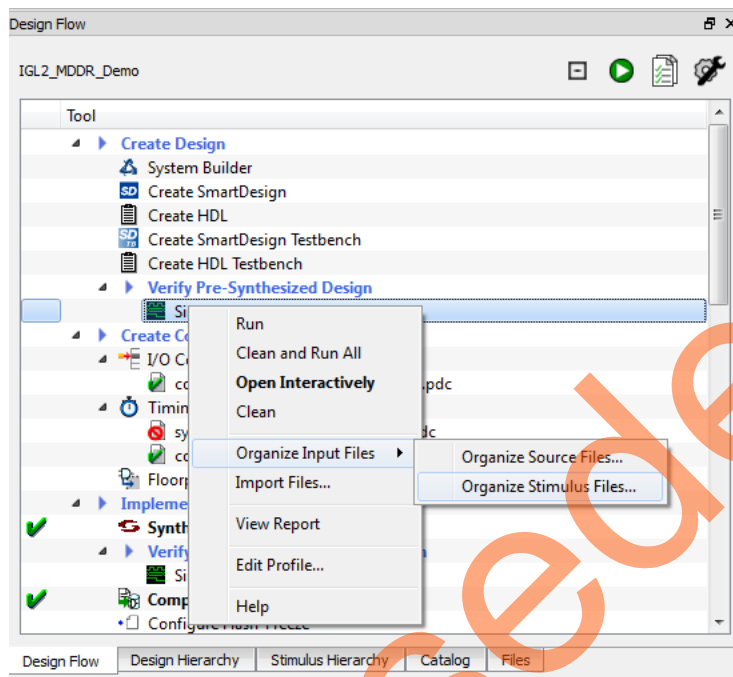

Figure 9 • Invoking Organize Stimulus Files Window
7. Right-click **Simulate** under **Verify Pre-Synthesized Design** and select **Organize Input Files > Organize Stimulus Files...**, as shown in Figure 9.